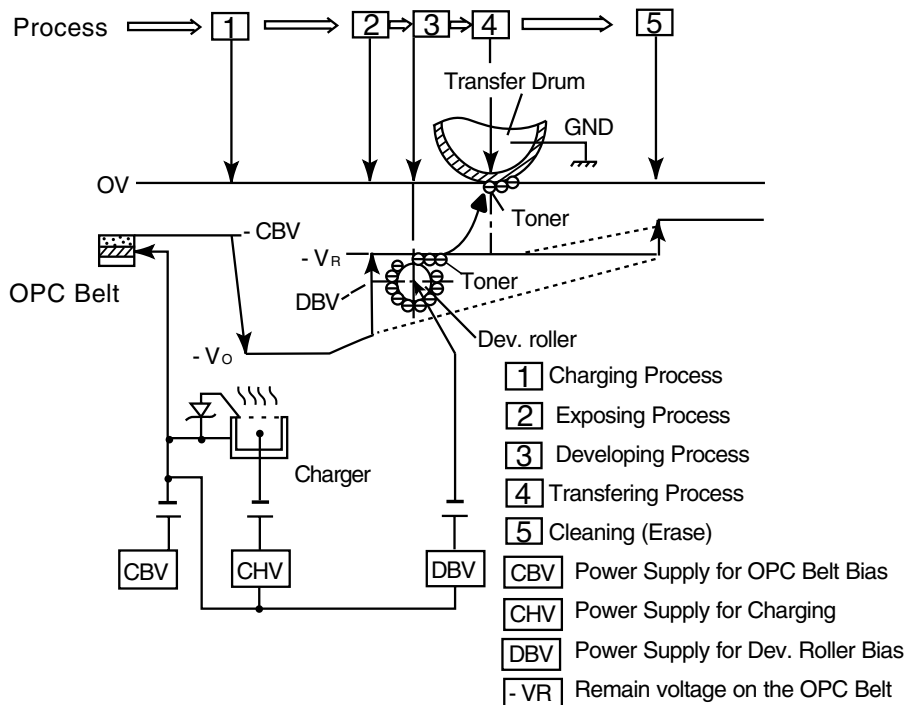

Fig. 4-10
- (2) Variation of OPC Belt Potential (See Fig.4-10.)